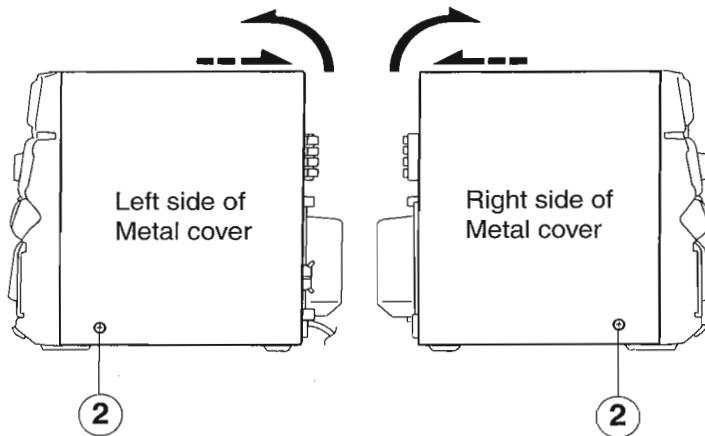

Fig. 3-2
2. Remove the two screws ② fastening the metal cover to the side panel of the main unit. (See Fig. 3-2)